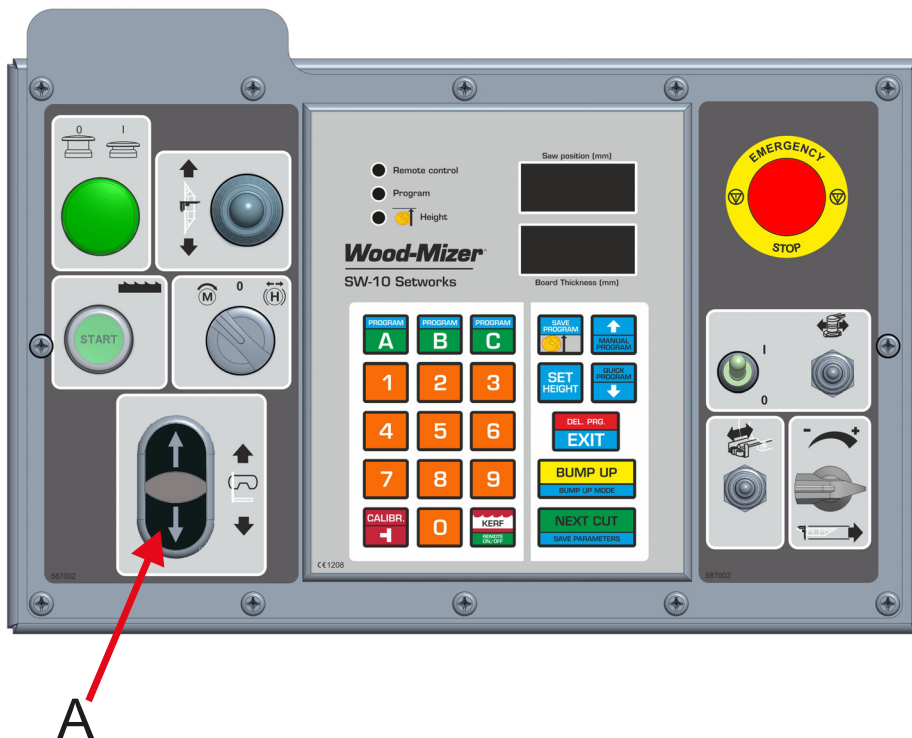

FIG. 2-11.
See Figure 2-11. The up/down buttons (A) are located on the left side of the control panel. Press the button with the up arrow to raise the cutting head; press the button with the down arrow to lower the cutting head. Hold the button until the cutting head reaches the desired height, then release it.